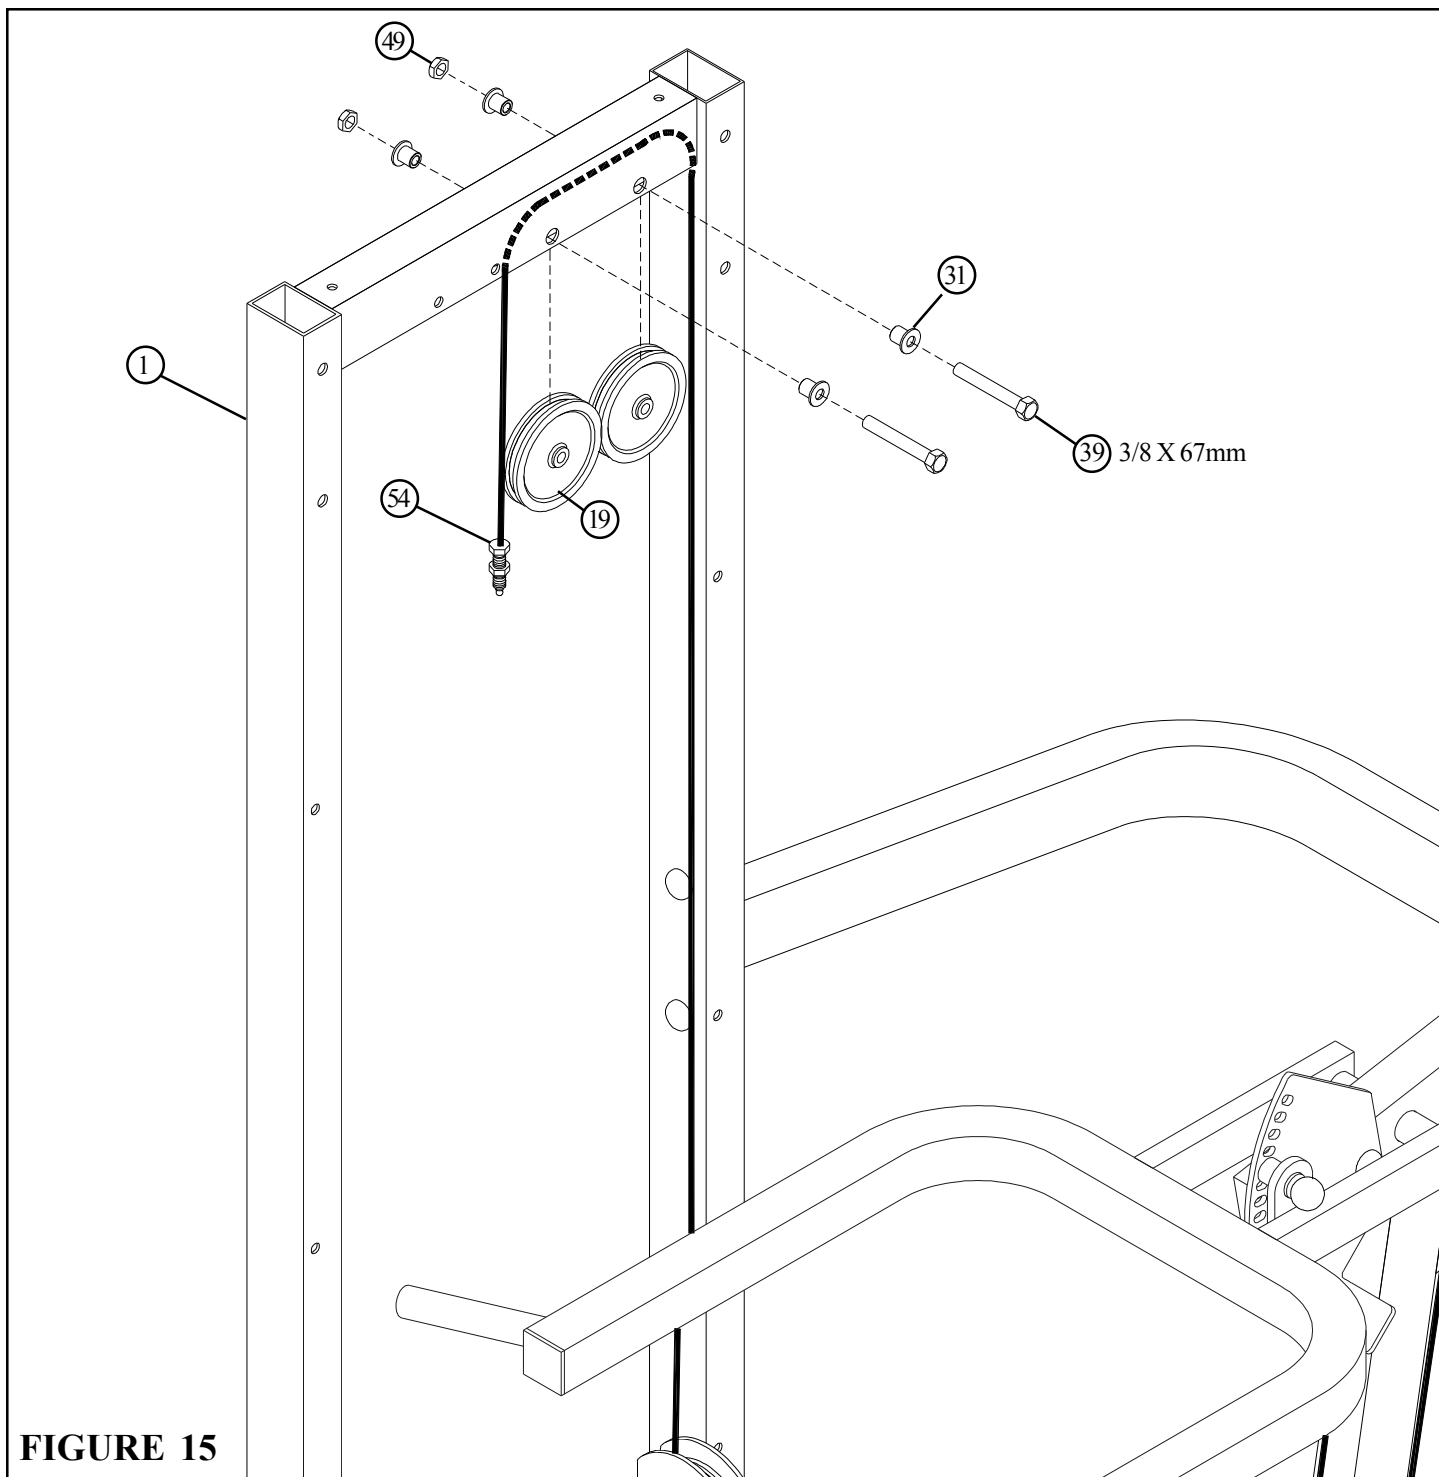

FIGURE 15
- Route the MULTI PRESS CABLE (54) through the TOWER (1) and **SECURELY** assemble two 4-1/2" PULLEYS (19) to the TOWER (1) using two 3/8 X 67mm BOLTS (39), four 3/8 X 1/2" FLANGE SPACERS (31) and two 3/8" LOW HEIGHT LOCK NUTS (49) as shown in FIGURE 15.